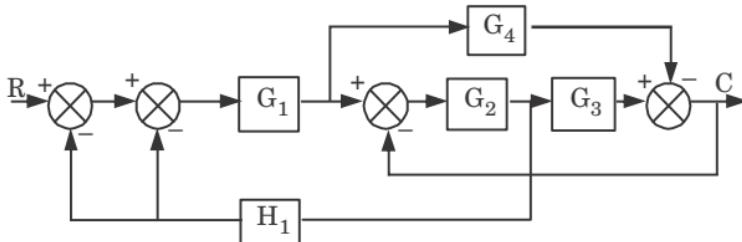

Fig. 4.
- Q. 8.** Draw the signal flow graph and determine the overall transfer function of the block diagram shown in Fig. 4.